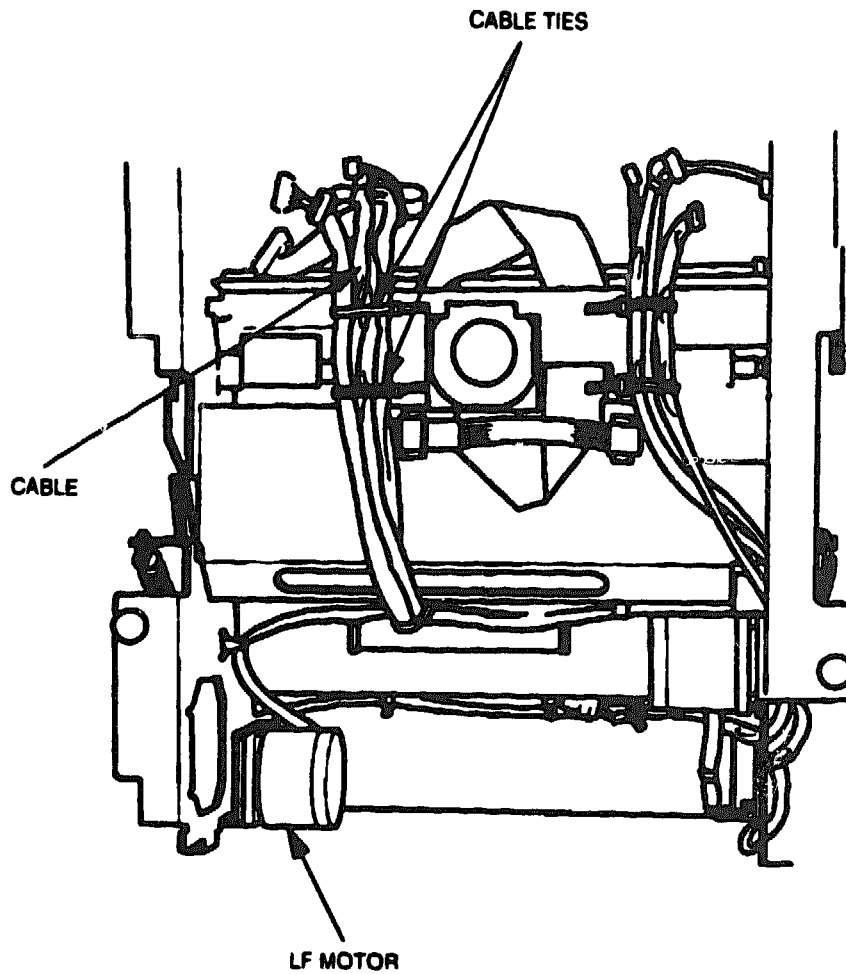

Figure 6-90 Lower Base Plate Cable Ties
2. Remove the cable from the cable ties on the lower base plate (see Figure 6-90).